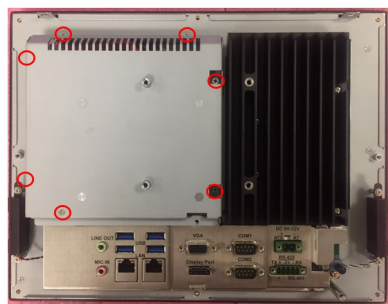

Figure 2.13
1. Follow the procedures in Section 2.3 to remove the rear cover and strength-plate (See Figure 2.13).